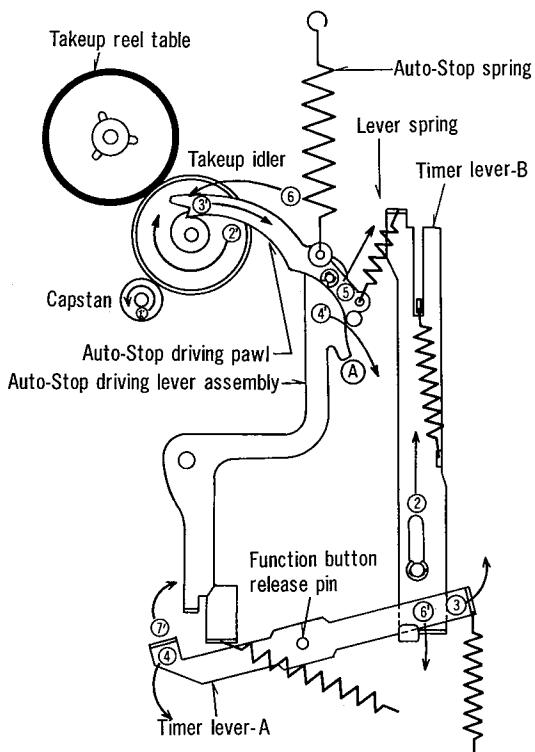
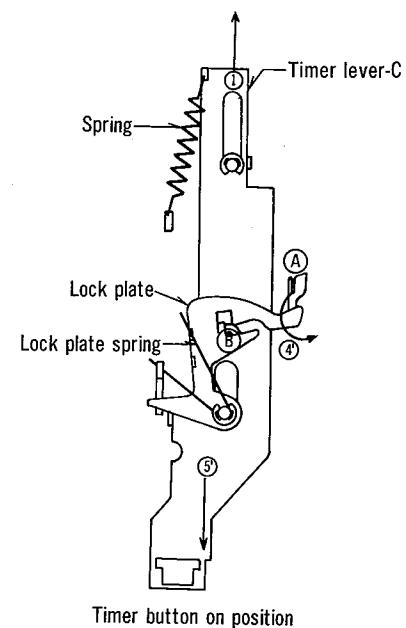

Fig. 1
Fig. 2
The explanation of this mechanism will be made based on the drawings which are described as shown in fig. 1, 2 and 3.
(1) When the power ON/OFF switch is turned "OFF" position (with the timer stand-by button in the "ON" position) as shown in fig. 1 and 2.
1. The timer lever-C is pushed in the direction of arrow (①) as shown in fig. 2.
2. The lock plate and the timer lever-C are locked at point (B).
3. When the timer lever-C is moved in the direction of arrow (①), timer lever-B and timer lever-A move at the same time in the directions of arrows (②) and (③) and (④) as shown in fig. 1.
(2) When the power ON/OFF switch is turned "ON" position (with the timer stand-by button in the "ON" position) as shown in fig. 1 and 2.
1. The motor starts rotating, and the capstan rotates in the direction of arrow (①).
2. Because the capstan contacts the takeup idler it rotates in the direction shown by arrow (②) at the same time when the capstan rotates.
3. When the takeup idler rotates, the Auto-Stop driving pawl is pushed outward in the direction of arrow (③), and the Auto-Stop driving lever assembly functions in direction shown by arrow (④). See fig. 1.
4. The lock plate is released at the same time that part (A) of the Auto-Stop driving lever assembly moves toward (④). See fig. 2.
5. Timer lever-C and lever-B return in the direction of arrows (⑤) and (⑥), and timer lever-A also returns in the direction of arrow (⑦).